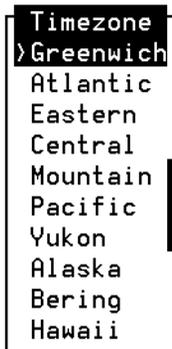

Figure 3-18. UNIX Time Zone Choices Menu
1. Press **F2** (Choices) to display the list of time zones (Figure 3-18).